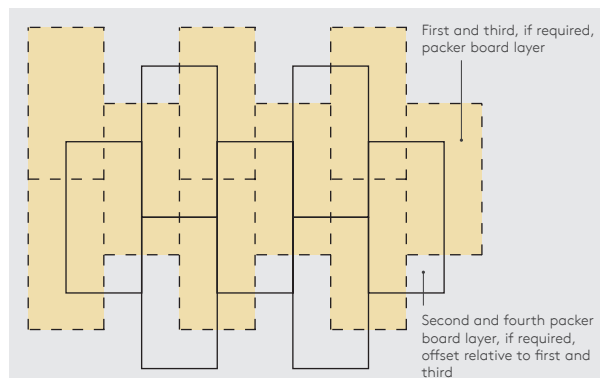

Figure 3: Offsetting of Multiple Packer Board Layers
- In all cases, the layers should be horizontally offset relative to each other so that, as far as possible, the board joints in any two adjacent layers do not coincide with each other (see Figures 3 and 4).